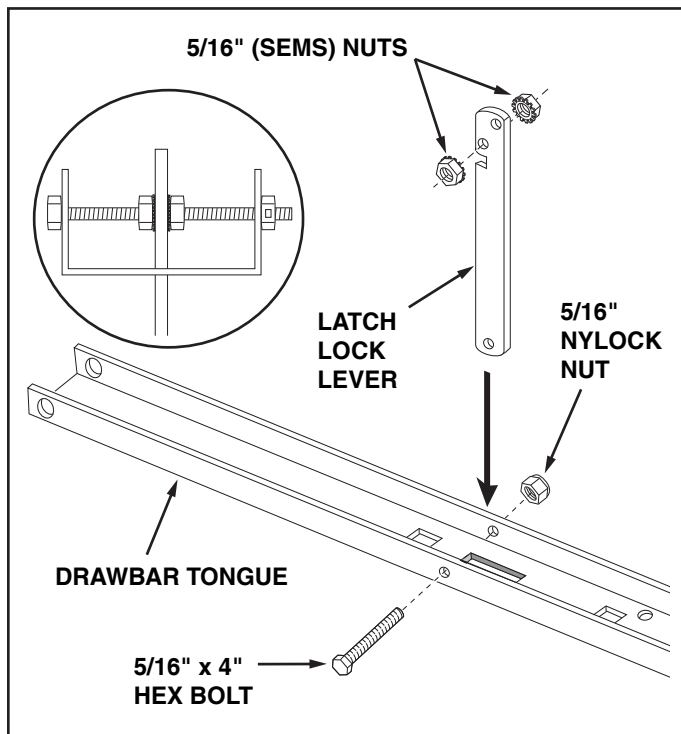

FIGURE 1
3. Place the latch lock lever through the slot in the draw bar tongue as shown in figure 1. Assemble the 5/16" x 4" hex bolt through the tongue, the lever and two 5/16" (SEMS) nuts (one on each side of the lever). Assemble a 5/16" nylock nut onto the end of the bolt and **tighten** so that the bolt can still rotate freely. **Tighten** the two 5/16" (SEMS) nuts against the sides of the latch lock lever so that the lever is centered in the slot. See figure 1.